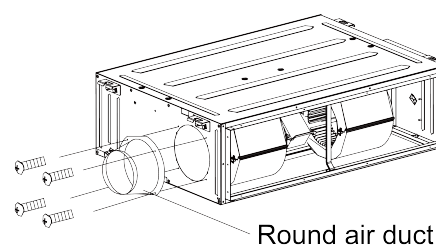

Fig.4.4.7
- (2) Install the round flange so that the fresh air duct can be connected as Fig.4.4.7.
- (3) Sealing and heat preservation should be done for both the air pipe and round flange pipe.
- (4) Fresh air should be treated via the air filter.